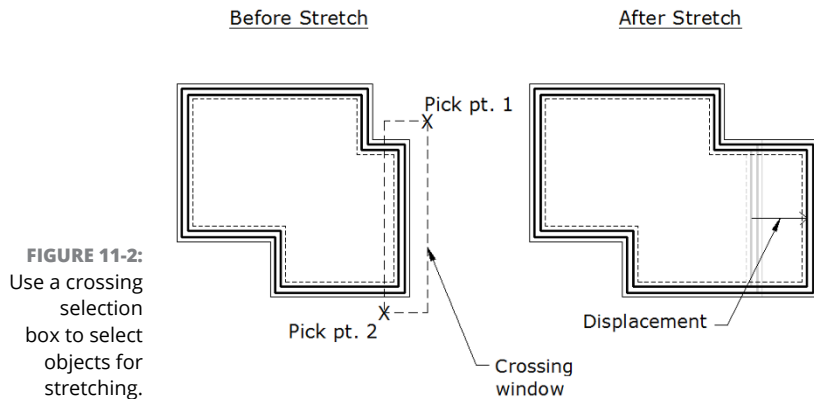

FIGURE 11-2: Use a crossing selection box to select objects for stretching.
- » **Select objects to stretch:** To use Stretch to change the length of objects, you *must* select the objects by using a crossing selection box or crossing polygon, as described in Chapter 10. See Figure 11-2.